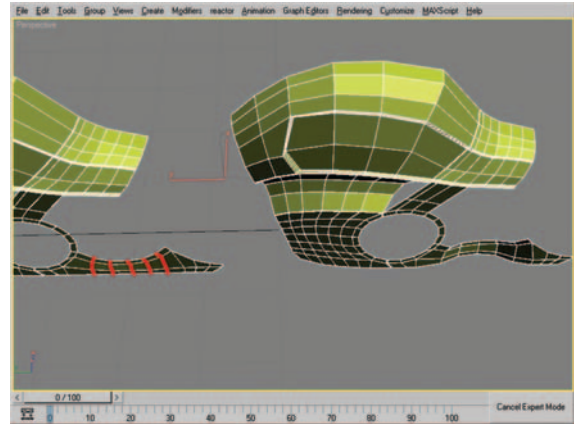

Figure 8.60 Edge selection (left) and mesh after using the Move tool to form an arched shape (right).
61. Select the edges seen in Figure 8.60 (left) and, using the Move tool, move them so that they form an arc in the mesh as seen in Figure 8.60 (right). *Note: Move the edge selections one group at a time for best results.*